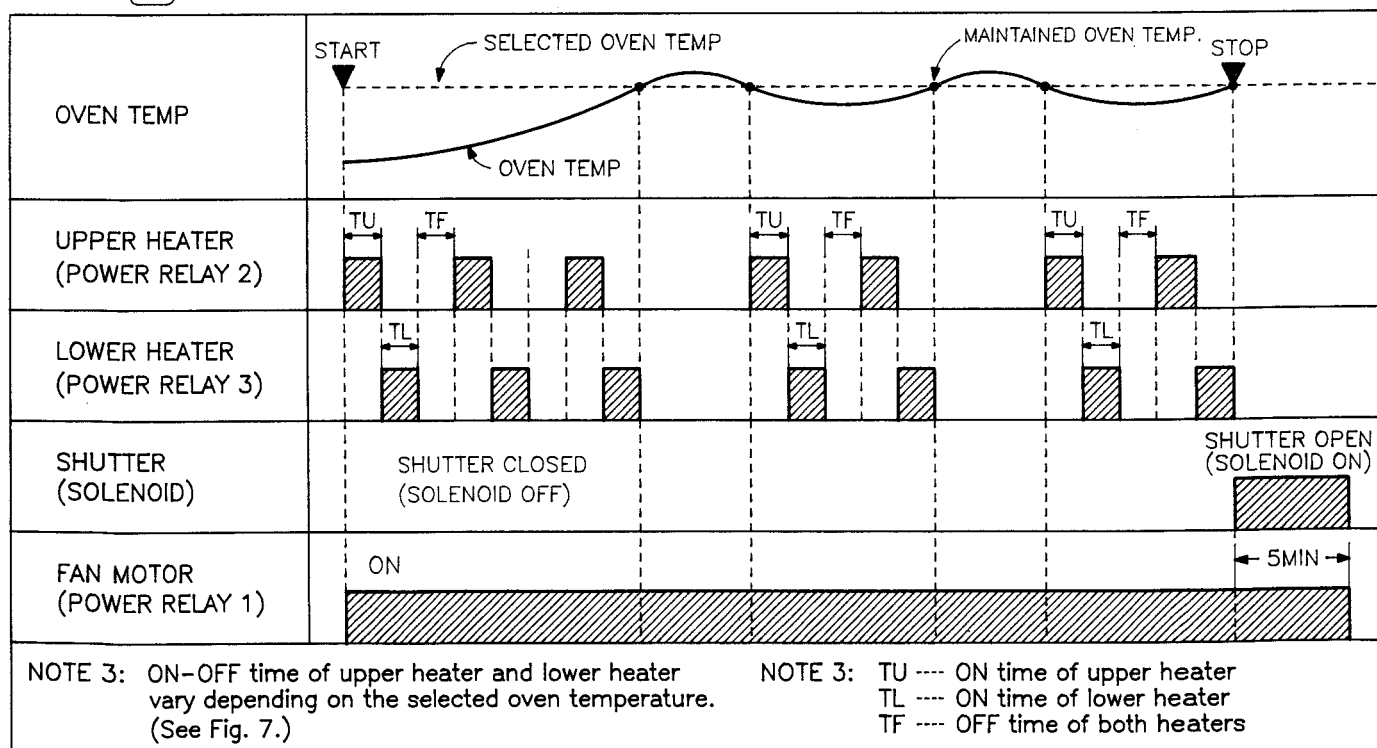

Fig. 8
- When the oven reaches the selected temperature, the digital programmer circuit senses the temperature through oven temp sensor and stops supplying 18V DC to the power relays 2 and 3 resulting in turn off of upper and lower heaters. After the heaters have been turned off, the oven temperature will continue to increase a while then decrease as shown in Fig. 8.